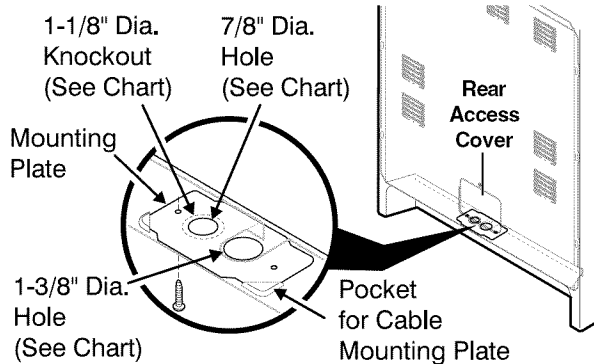

Fig. 9
See Range Connection Opening Size Chart (Figs. 9 & 10) for cord kit ampere rating information. Terminals on end of wires must be either closed loop or open-end spade lugs with upturned ends.
The Rear Access Cover must be removed (Fig 9). To remove, loosen center screw (one screw) and remove cover. The terminal block will then be accessible.
**NOTE:** Range is shipped from factory with 1-3/8" dia. hole as shown. To use either 7/8" dia. hole or 1-1/8" dia. knockouts refer to Fig. 9.
1. Follow the manufacturer's installation instructions supplied with the strain relief and install (Also see Figs. 9, 10 & 11).
5. Make sure all screws are tightened securely and replace the rear access cover (See Fig. 9).
3. Make sure all connections are tightened securely and replace the rear access cover (See Fig. 9).